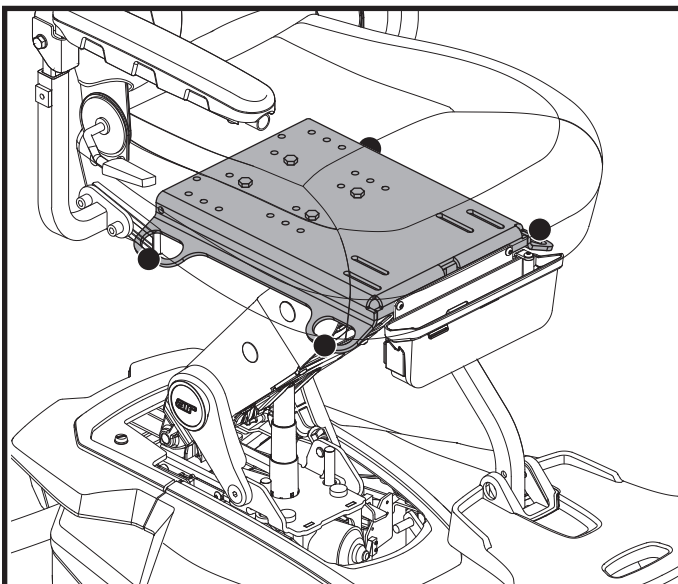

Figure 6. Transit Securement Brackets
- Attach the four tie-down straps to only designated, labeled transit securement points indicated by anchor symbols on the power chair. See figures 6 and 7. Tighten the straps to sufficiently remove all slack.